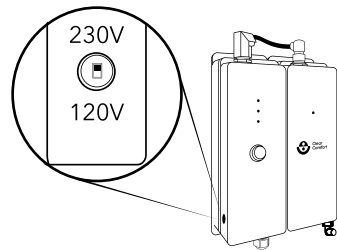

Figure 4: Version 2.1 With Ballast Switch (Made Before 2022)
- **If Your System Will Be Powered by 120V (See Figure 4)**
- Use a small screwdriver to slide the switch to the 120V position, as shown on the label. See Figure 4.